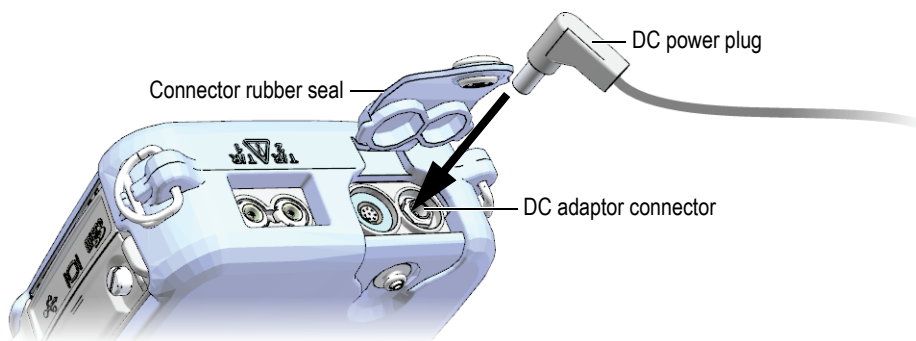

Figure 2-3 Connecting the DC power plug
2. On the 38DL PLUS, lift the rubber seal covering the DC adaptor connector on top of the 38DL PLUS (see Figure 2-3 on page 27).
3. Connect the DC power plug from the charger/adaptor to the DC adaptor connector (see Figure 2-3 on page 27).